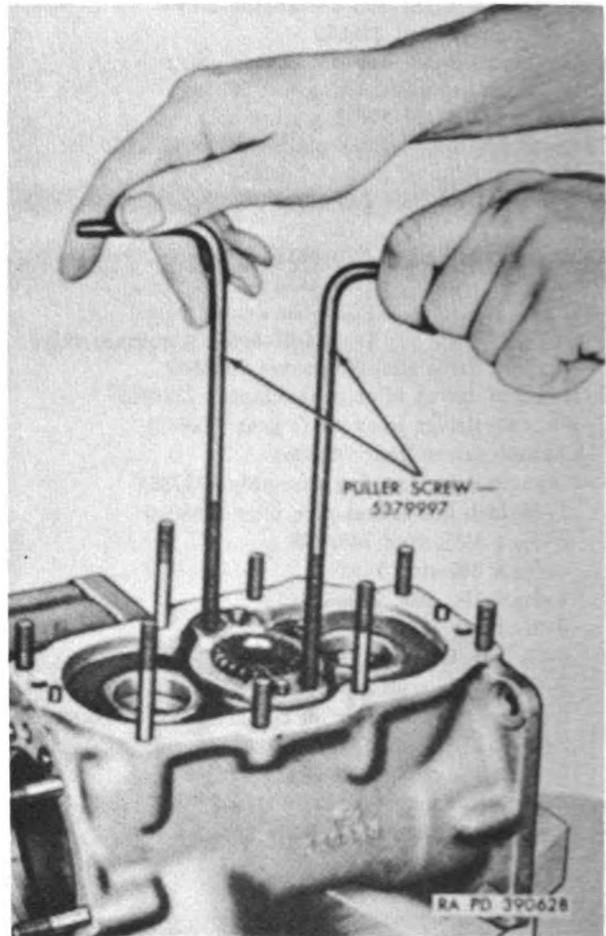

Figure 124. Removing magneto driven idler gear adapter.
- (1) Remove two cotter pins (BB), slotted hex nuts (AA), and flat washers (Z) securing magneto driven idler gear adapter (G) to magneto drive housing (K-5).
- (2) Remove gear adapter from drive housing using two puller screws 5379997 (fig. 124).
- (3) Remove magneto driven idler shaft gear (H) and magneto drive idler gear (V) from drive housing.
- (4) Remove four hex-socket pipe plugs (K-1), one elbow, and one nipple from openings in drive housing.